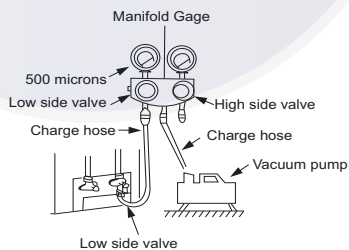

Fig. 13 — Manifold
3. Fully open the low side of the manifold gage (see Fig. 13).